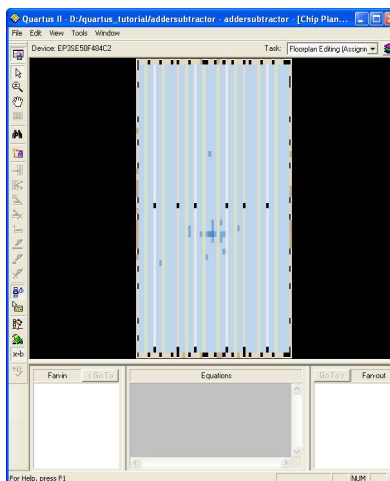

Figure 23: View of the floorplan.
5. An indication of where the circuit is implemented on the chip is available by selecting Tools > Chip Planner(Floor Plan and Chip Editor), or by clicking on the icon . This opens the Chip Planner display, as shown in Figure 23. This display highlights the location of the logic elements used to implement the circuit. To make the image appear as shown in Figure 23 you may have to select View > Fit in Window (shortcut Ctrl-w), and it can be expanded to fill the screen by clicking the Full Screen icon  in the left hand toolbar.